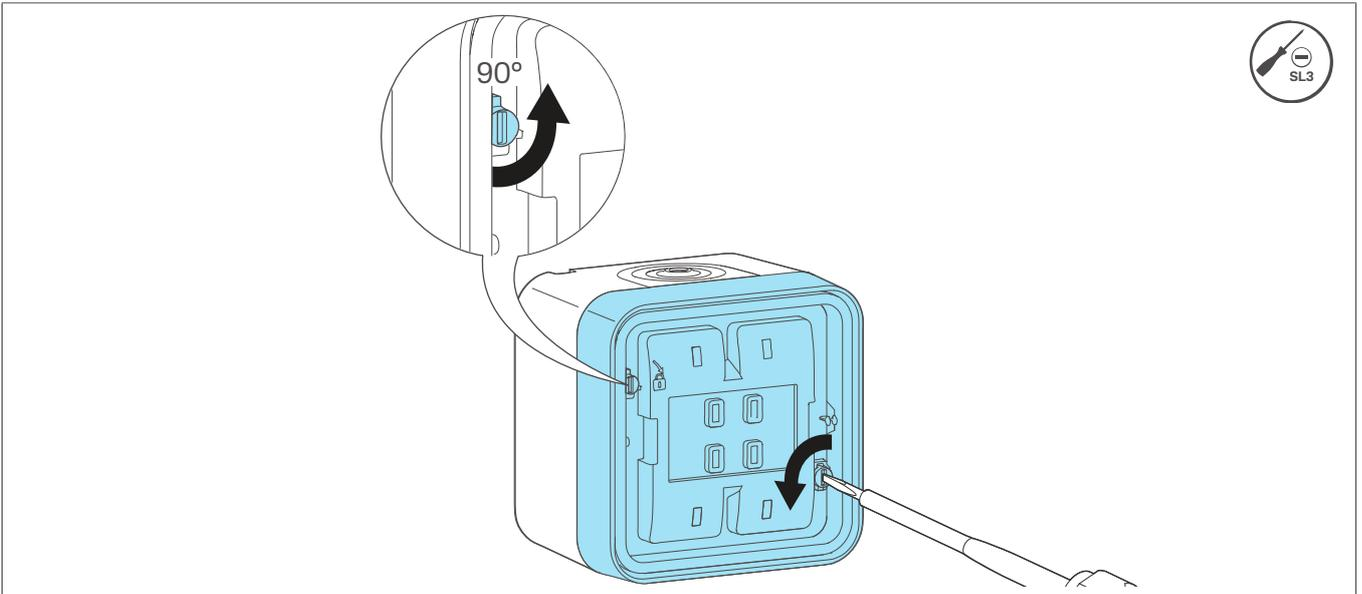

Fig. 3: Unlock the quick-release bayonet connectors
- 2 Unlock quick-release bayonet connectors (8) by a  $\frac{1}{4}$  turn to the left with a screwdriver (Fig. 3).